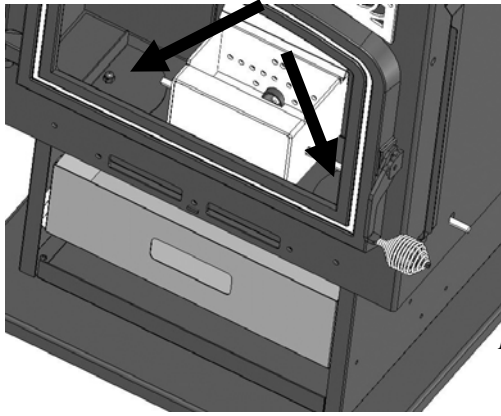

Figure 1
3. Open secondary floor panels, brush debris through openings into ash drawer. Close panels. Figure 1.